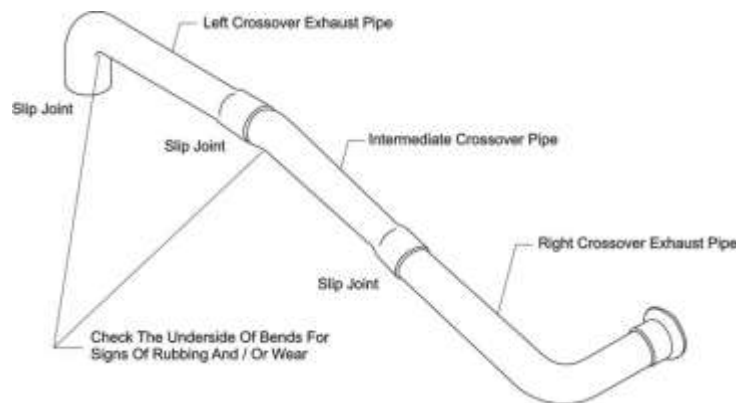

Figure 4
- A. Examine the transition (Figure 3) and its gaskets and clamps as well as the slip joints (Figure 4) for cracks, and poor or loose fittings. Identify and correct any problems. Replace any damaged, leaky gaskets.
- E. Examine the slip joint (Figure 4) components for distortion, cracks, separation, gas leaks, and make sure it is correctly aligned.